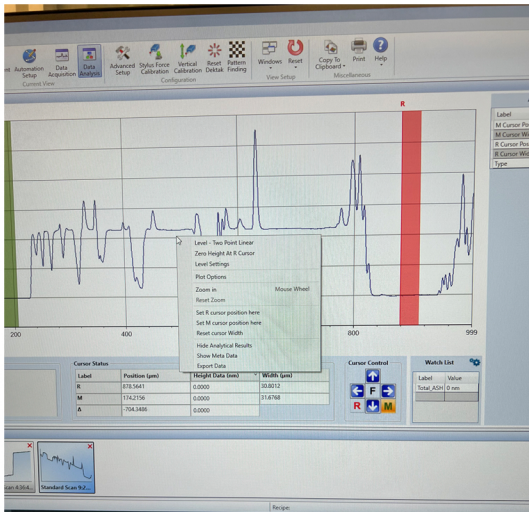

Figure 4: Data Analysis Window
- At the end of the measurement, the Data Analysis window appears (see Figure 4). If desired, click Save> Dataset.